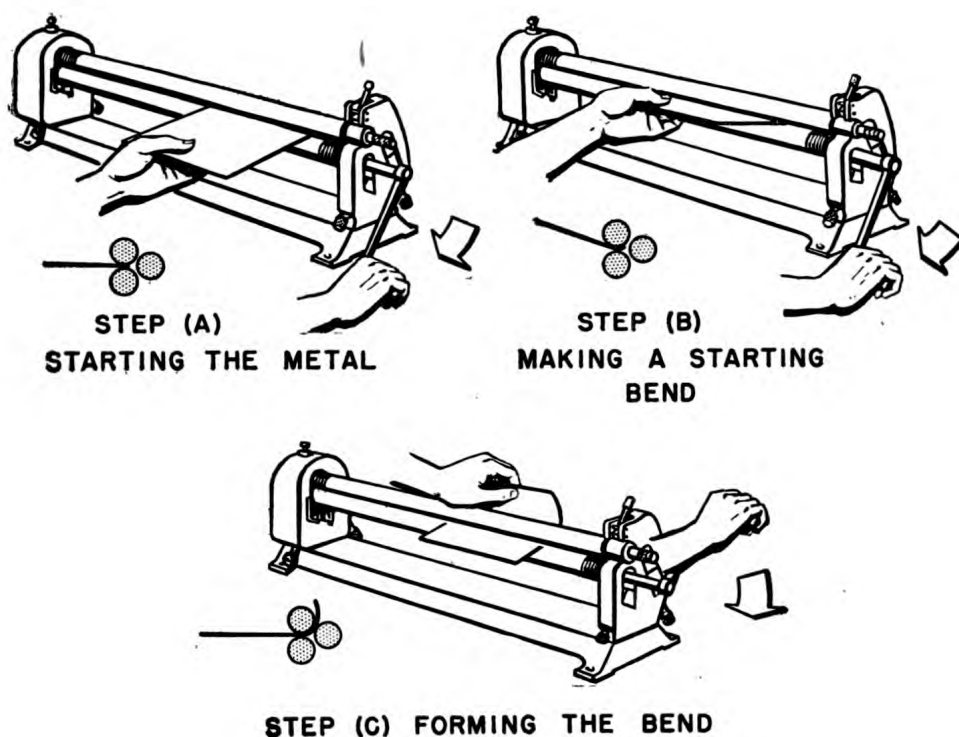

Figure 30.—Rolling a cylindrical form.
front of the machine and start the metal by turning the handle as in (A) of figure 30.